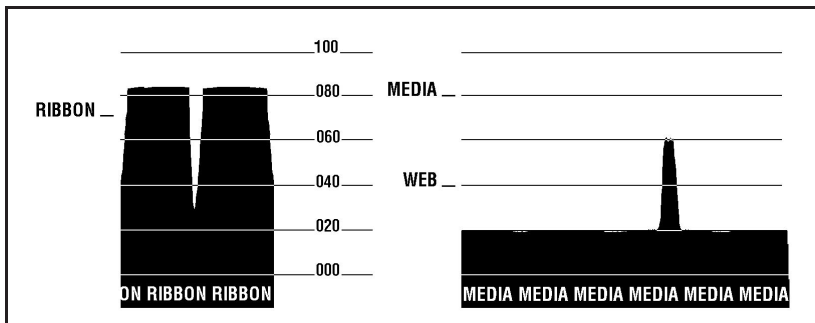

Figure 6: Sample Media Sensor Profile
6. Press and release the Feed Key. A profile of the media sensor settings will print. See Figure 6. When complete, the printer will save the new settings in memory and the printer is ready for normal operation.